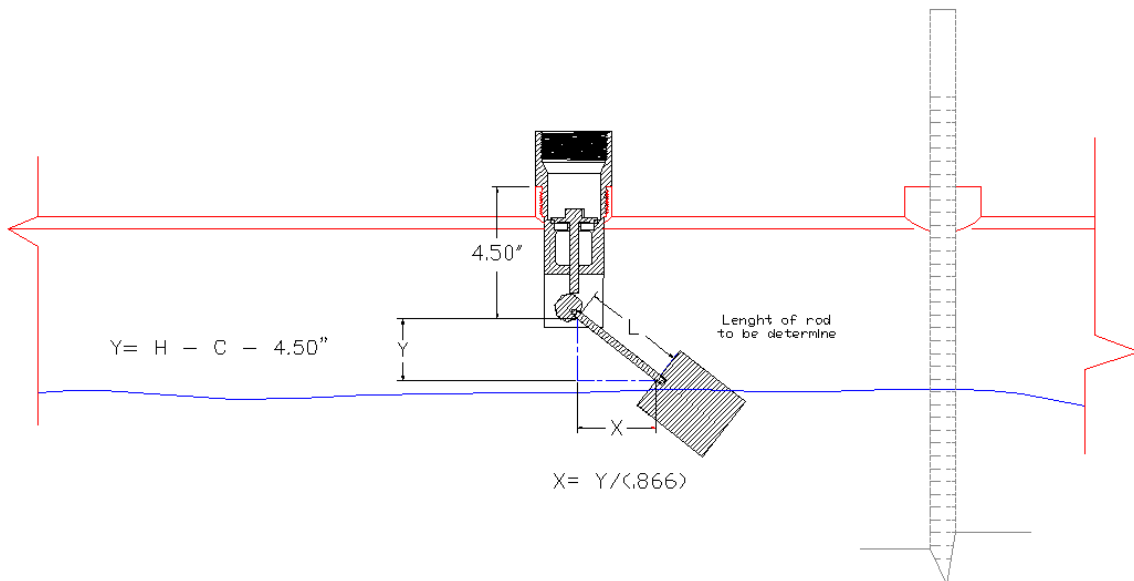

Figure 4 Calculating values for "Y" and "X"
3. Subtract 4.5" and the height "C" from the height "H" to determine a distance "Y" as shown in Figure 4. ( $H - C - 4.5$ ")
4. Divide the value obtained for "Y" by .866 to determine the distance "X" also shown in Figure 4.